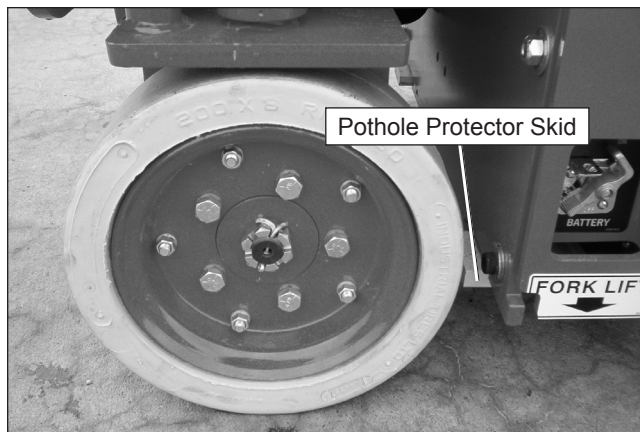

Figure 8.11 – Pothole Protector Skid
3. With the trays closed, check the ground clearance under the pothole protector skids (refer to Figure 8.11). Clearance should be at about 2 1/2" (6.3 cm) on both sides of the aerial platform.